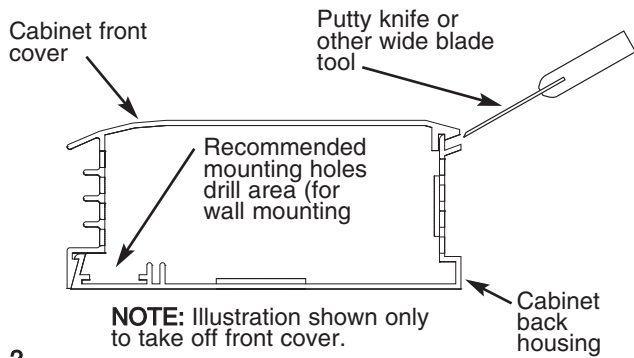

Fig. 2
15. To avoid damaging heater, do not use a screw driver to separate front cover from back housing. Use only a putty knife as shown, see Fig. 2
2. Remove front cover by laying the heater on its back and inserting a putty knife (or other thin, wide blade tool, 1" [25mm] wide minimum) approximately 6" (152mm) from the end of the heater and prying up as shown in Fig.2. This will spring the snap lock closure open. Repeat as required down the length of the heater until the front cover completely disengages from the heater back.
4. Drill the required size mounting holes in the heater housing (See Fig. 2 for recommended mounting hole location.)
5. Drill the required size mounting holes in all the heater housings. (See Fig. 2 for recommended mounting hole location.)